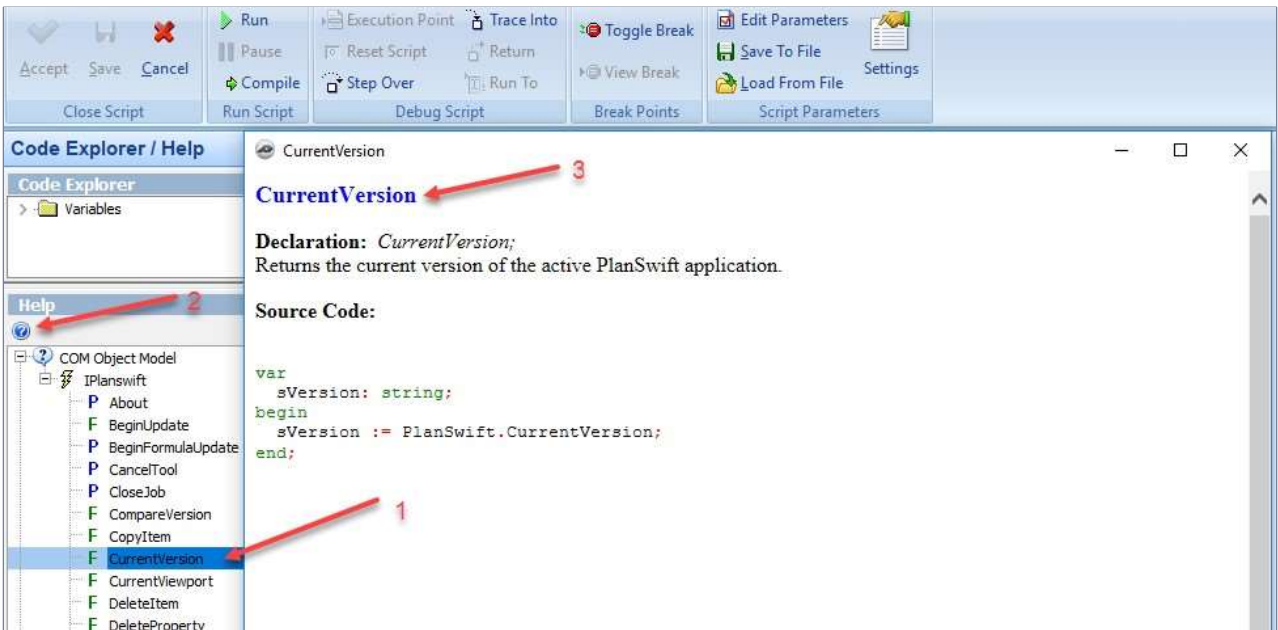

Figure 13
13. Clicking on **CurrentVersion** (arrow 1 of Figure 13), then clicking on the question mark (arrow 2), opens the **CurrentVersion** window (arrow 3), which provides the **Declaration** form of the item selected and a **Source Code** Example. Source code may be copied and pasted into the Script Editor window and then modified as needed, or the **CurrentVersion** selection can be double-clicked on and will appear in the **Script Editor** window at the cursor's last position. The **Close Script**, **Run Script**, **Debug Script**, **Break Points**, and **Script Parameter** sections provide the code editing functions useful in programming API's.